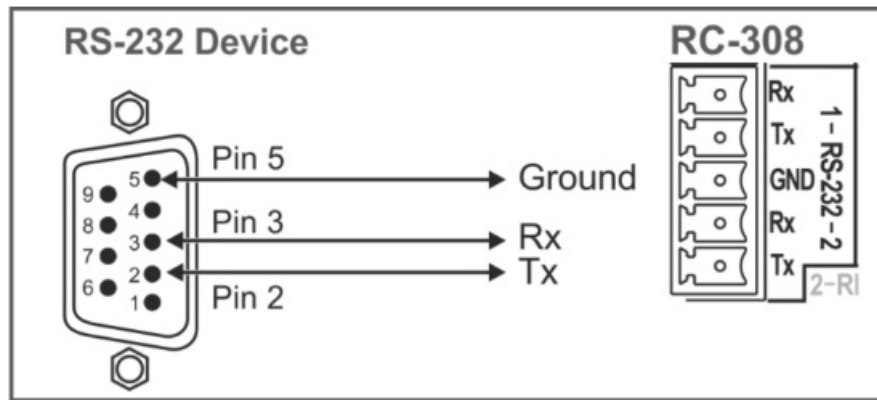

Figure 8: RS-232 Connection
You can connect a device to the **RC-308**, via the RS-232 terminal block (7) on the rear panel of the **RC-308**, as follows (see Figure 8):